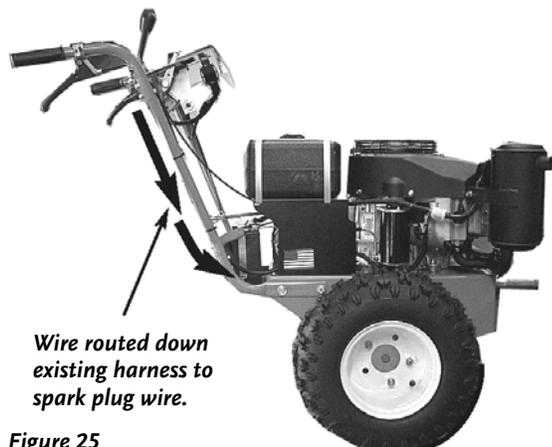

Figure 25
8. Route the remaining Meter wire forward, following down the existing wiring harness toward the engine spark plug wire (**Figure 25**).
9. Attach the Sensor Wire to the Spark Plug Wire by wrapping it around the plug wire as shown in Figure 25. Secure the Sensor Wire back on itself with a Cable Tie (**Figure 26**). The Meter installation is now complete.